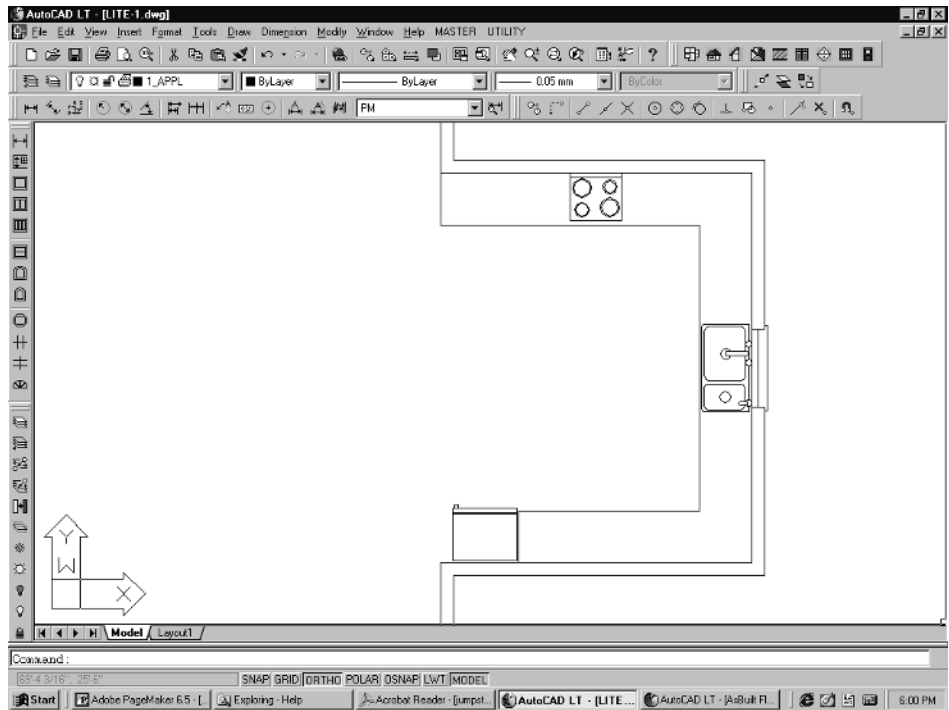

Figure 6-47
2. The first thing to do is to offset the wall lines **24"** to the inside. This will form the counters. Add a 3'x3' window centered in the right-hand wall. Then add the sink, range, refrigerator, and cabinet outlines. Your drawing should look like Figure 6-47.